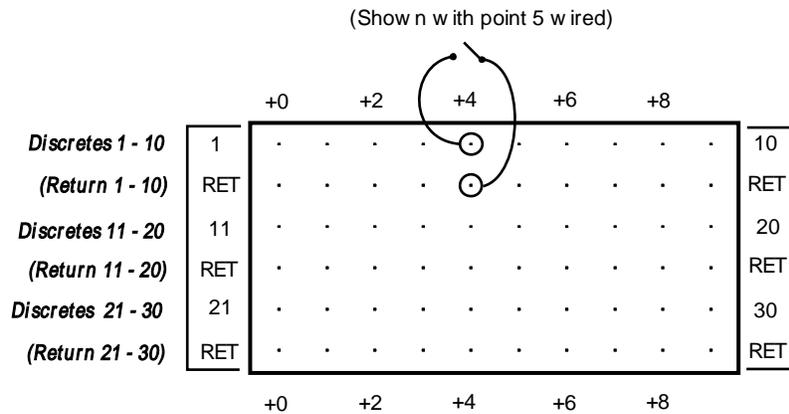
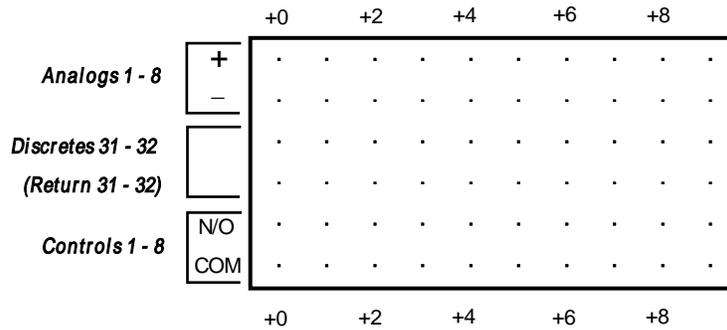

Fig. 6.11.2. Wire-wrap pinouts for Discretes 1–30
Fig. 6.11.3. Wire-wrap pinouts for Discretes 31–32, Analogs 1–8, and Controls 1–8
3. Connect discrete alarms, analog alarms, and control relays to the two pin blocks. Figures 6.11.2 and Figure 6.11.3 show the pinouts for the wire-wrap back panel.